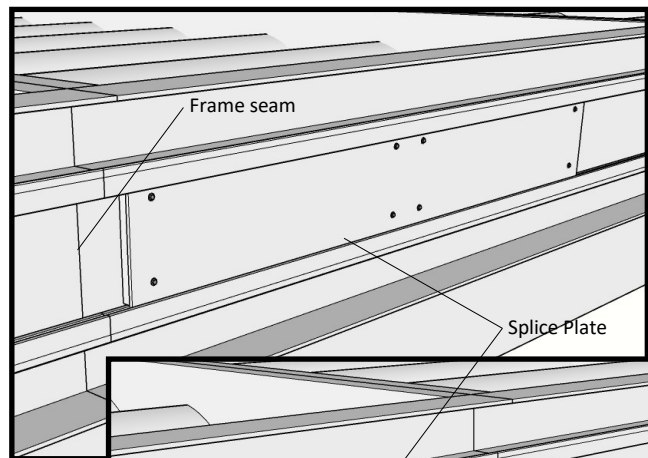

Fig 7
5. Set the Frames (#1) in place as shown in the drawing package. Make sure the Frame corners set over post notches as shown in fig 5a. To snap the frames together, use the same soft padded clamps. Make sure the frames are aligned by positioning the Splice Plates in the frame slots and slid to one side of the seam. (see fig 7)